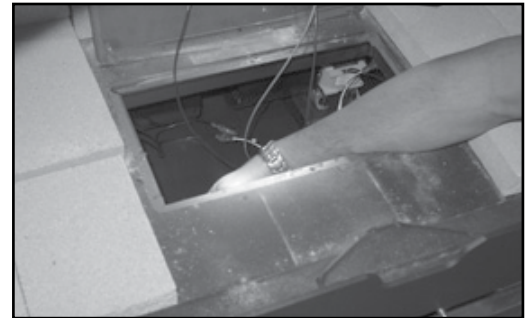

Figure 36.3
8. The timer assembly is bolted under the face. Use a 7/16 socket wrench to remove the 2 bolts. Figure 36.3.
9. There is very little room to pull the timer assembly out the front of the fireplace. Place your hand through the access door in the floor of the fireplace. Let the timer assembly drop down and then rotate it up through the access door. Figures 36.3 and 36.4.